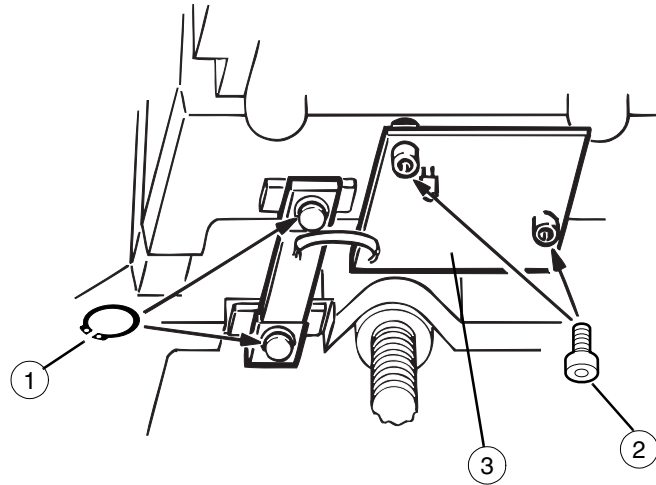

Figure H.23
- d) Loosen the Force sensor circlips (Fig. H.23, 1). Unscrew the two screws of the Force sensor PCB (Fig. H.23, 2) and remove the PCB (Fig. H.23, 3).